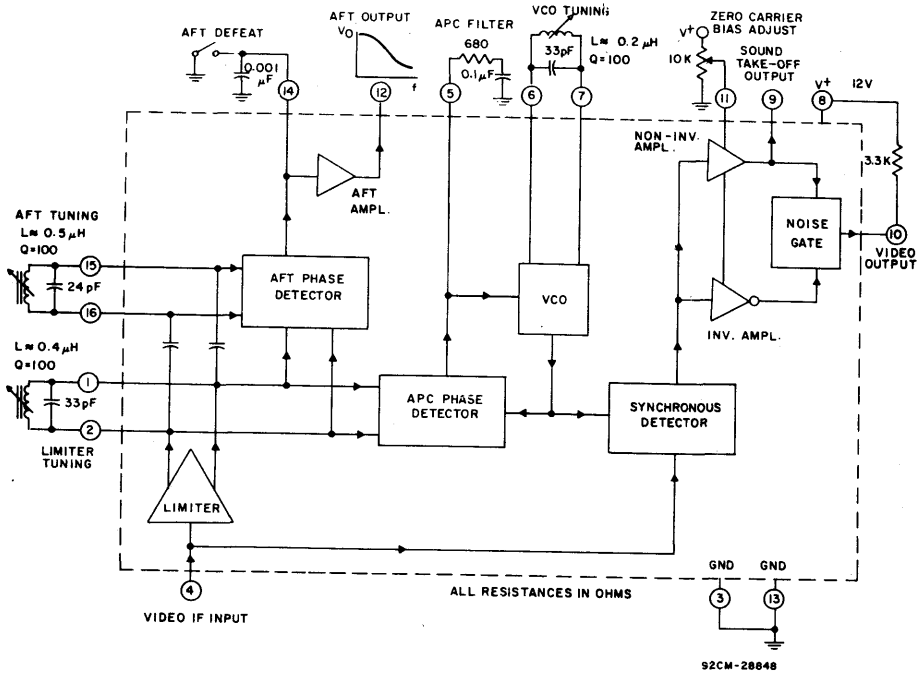

Fig. 1 - Block diagram of the CA3136 in a typical circuit application.
Fig. 1 shows a block diagram of the CA3136 in a typical circuit indicating the internal functions as well as the external circuitry and signals. A 45.75 MHz, 100-mVrms (50-ohm) signal is applied to the VIDEO IF INPUT (Terminal 4). While monitoring the VIDEO OUTPUT (Terminal 10), make the following adjustments in the indicated sequence; (1) adjust the VCO TUNING coil for a dc signal (lock). (2) Adjust the LIMITER TUNING coil for a minimum dc voltage on Terminal 10. (3) Adjust the VCO